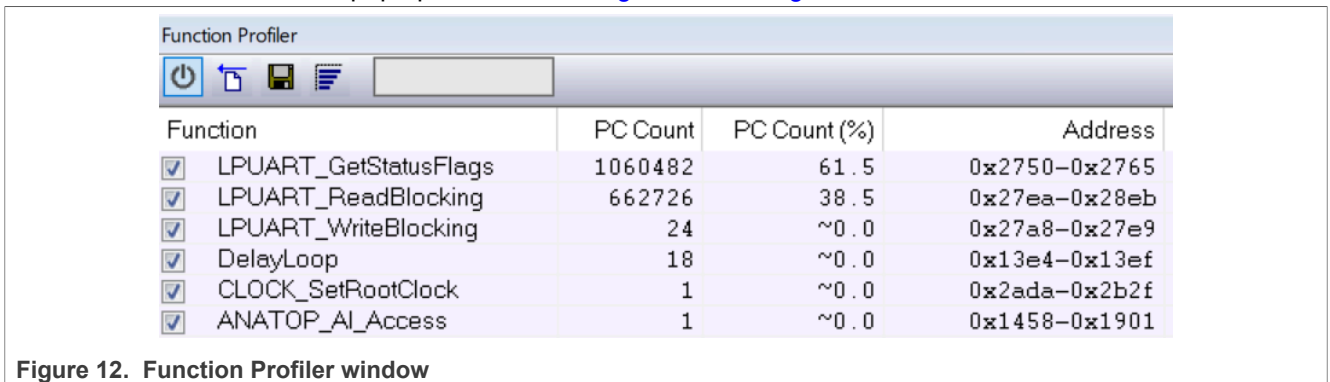
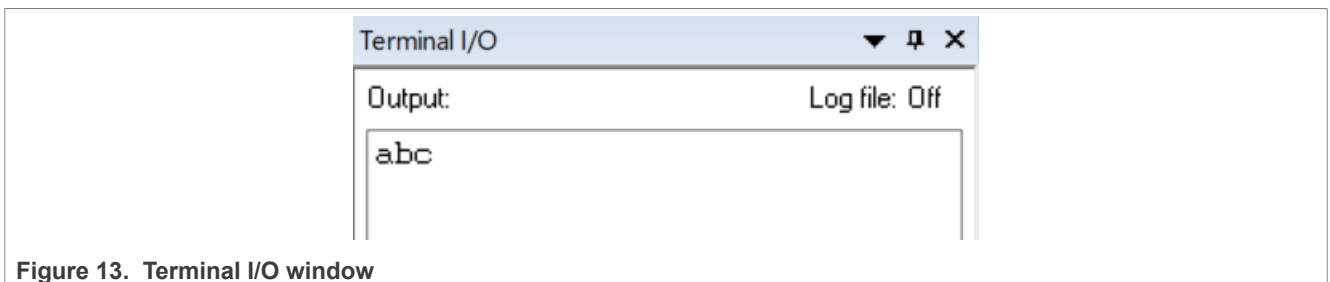

Figure 12. Function Profiler window
Figure 13. Terminal I/O window
- Build and run the code, and input some characters from the UART console. The **Function Profiler** window and Terminal I/O window pop up, as shown in Figure 12 and Figure 13.